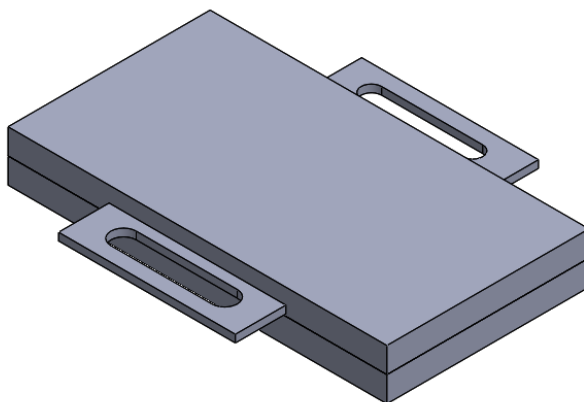

Figure 21-65 Final Mold Base assembly
- Create the exploded view of the assembly, refer to Figure 21-65.
Similarly, create the another insert. The final Mold base assembly is shown in Figure 21-65.